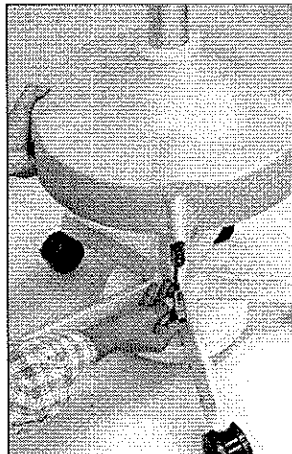

Figure 5-24c: Injector Pigtail
- a. Lift the stand's shroud and connect the power/communications cable to the Injector pigtail cable (see Figure 5-24c).